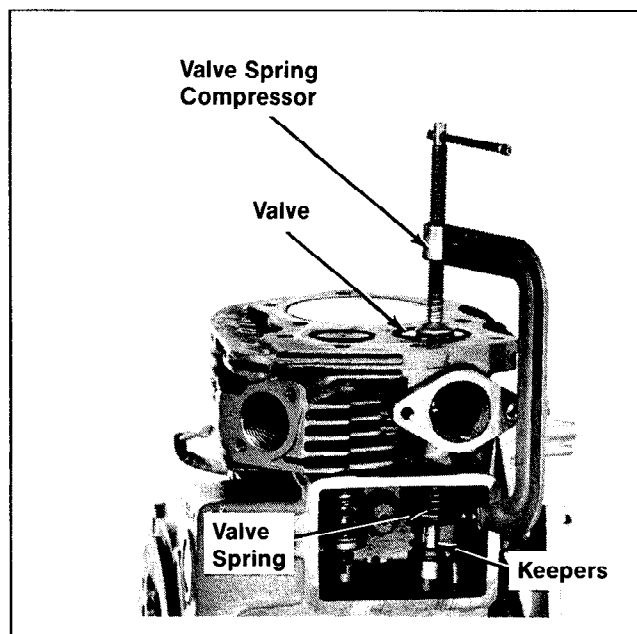

Figure 12-42. Installing Valve Keepers.
5. Compress springs using a valve spring compressor and install keepers. Refer to Figure 12-42.